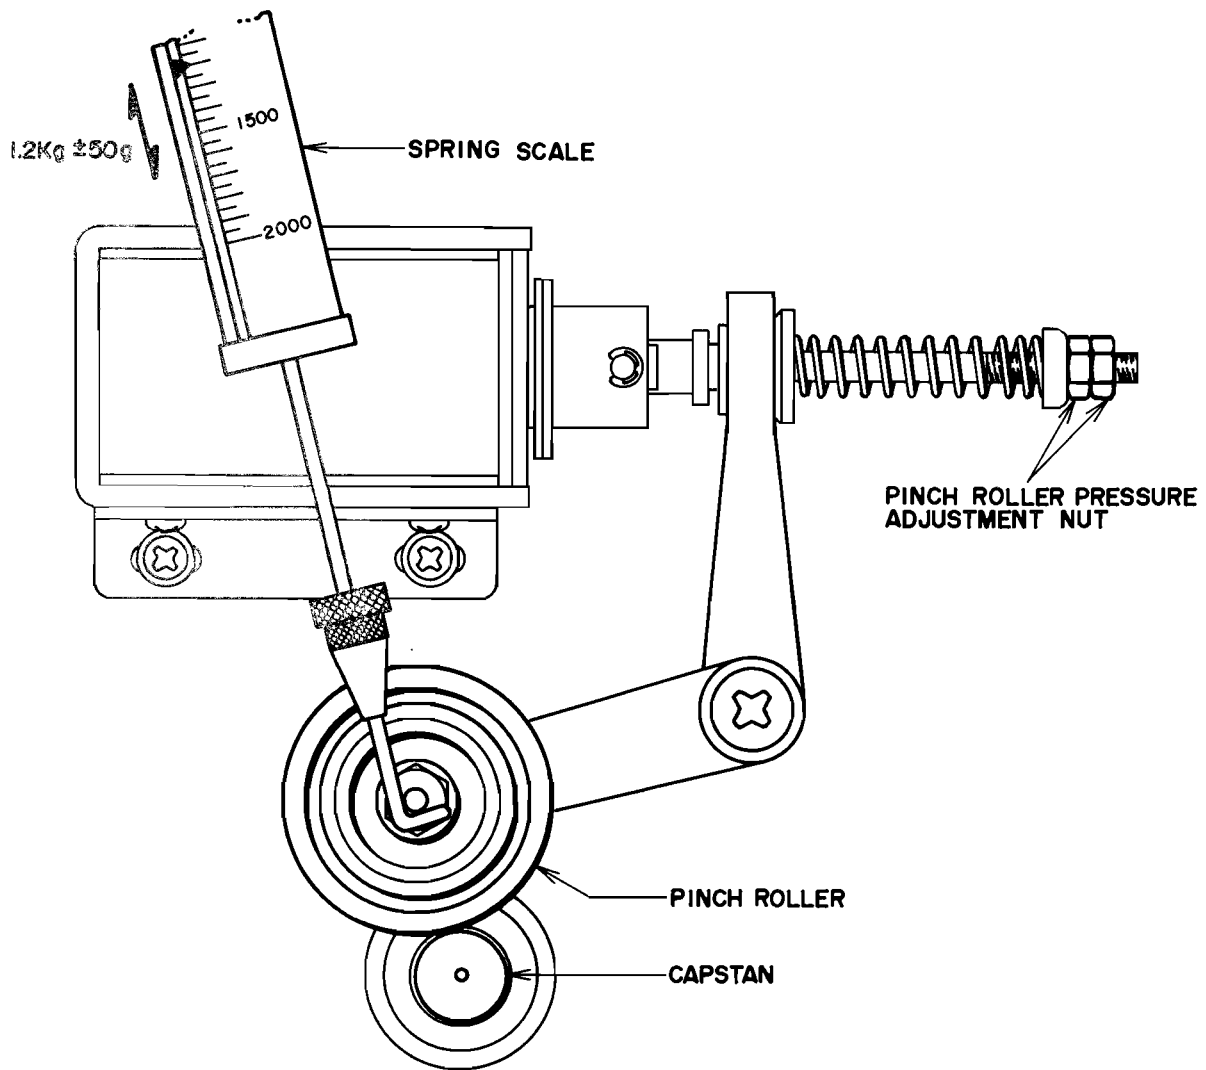

Fig. 18
6. PINCH ROLLER PRESSURE ADJUSTMENT (See Fig. 18)
As shown in Fig. 18, pull back the Pinch Roller with a spring scale, and then return. Take a reading of the spring scale indication at the time the pinch roller touches the capstan. Adjust Pinch Roller Pressure Adjustment nut to obtain a 1.2 kg±50 gr spring scale indication at this time.